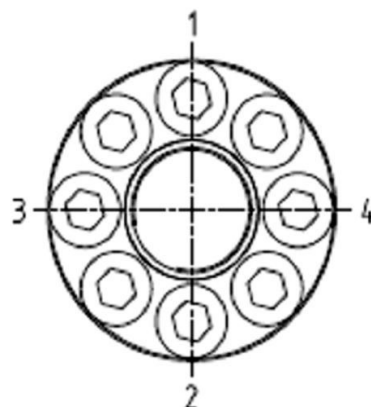

Figure 16: Tightening the pressure bolts
3. First, fasten the M 10 pressure bolts marked in Figure 16 (pos. 1, 2, 3, 4) finger tight.